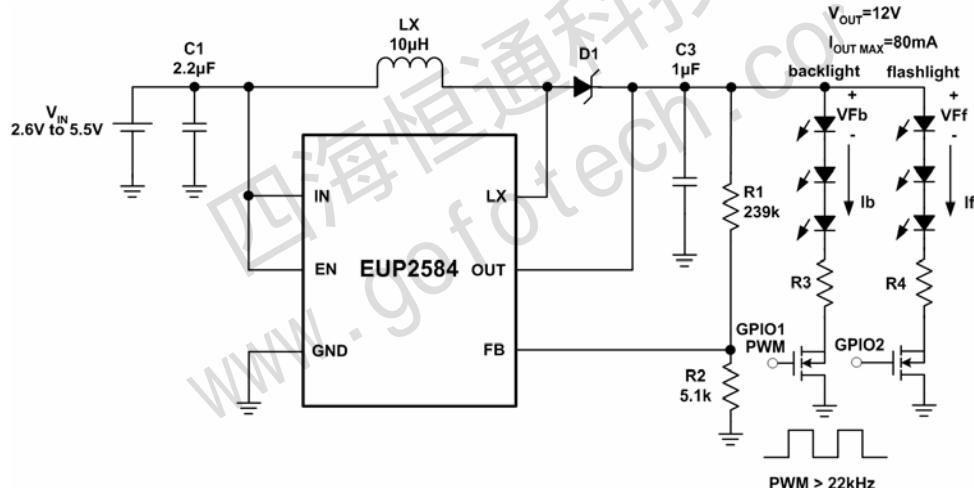

Figure 6. Constant Output Voltage for Backlight and Flashlight
Figure 6 is an application of EUP2584 for backlight of main panel and flashlight. Setting the divider-resistors (R1 & R2) is to get a constant output voltage that depends on the forward voltage and the numbers of series-LEDs. There are three kinds of mode controlled by the switches - backlight mode /flashlight mode /backlight + flashlight mode. It can turn on backlight or flashlight at one time or both at the same time. Applying different duty cycle of PWM signal above 22kHz to backlight's switch can also control the brightness. The following formula (2)(3) can determine R3 and R4.